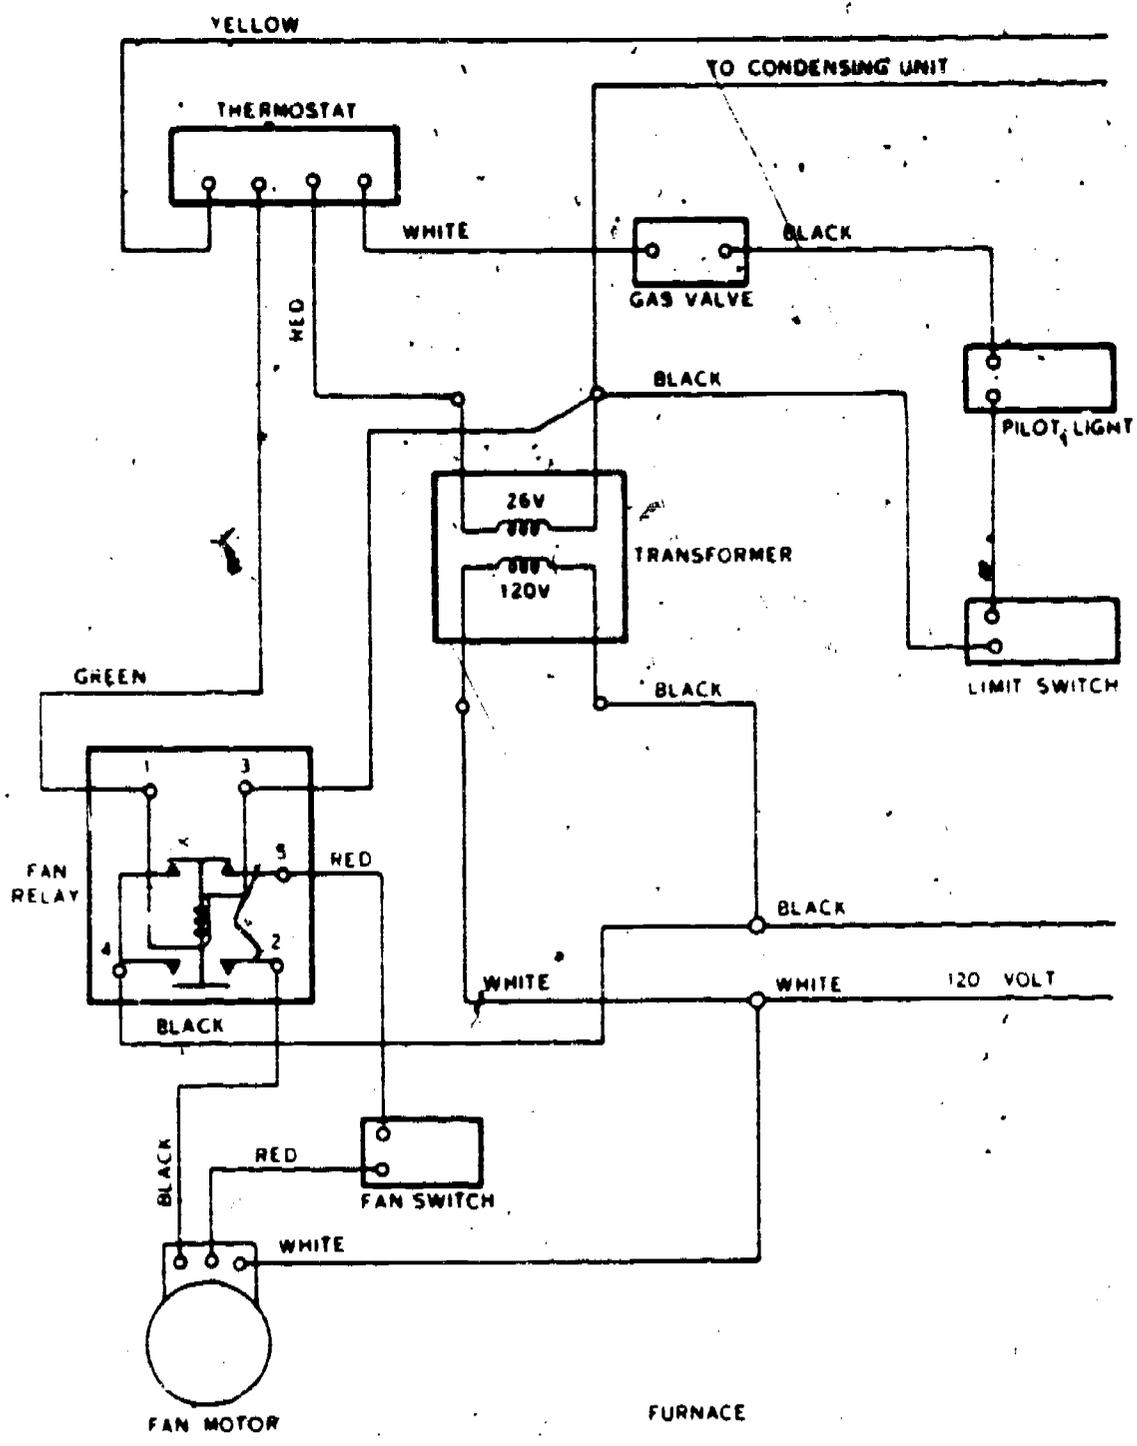

Figure 11. Furnace Wiring Diagram
**THE PILOT LIGHT.** There are two types of flame safety devices activated by the pilot light flame. They are the thermocouple and thermopile. When the thermocouple is heated by the pilot flame, the thermocouple produces millivolts that energize a magnet coil in the pilotstat. With the thermopile, the millivolts produced provide the current, in series, to the gas burner control circuit. If the pilot light goes out, the circuit to the gas valve is permanently opened and cannot be reclosed until the pilot is reignited. The furnace wiring diagram is shown in figure 11.